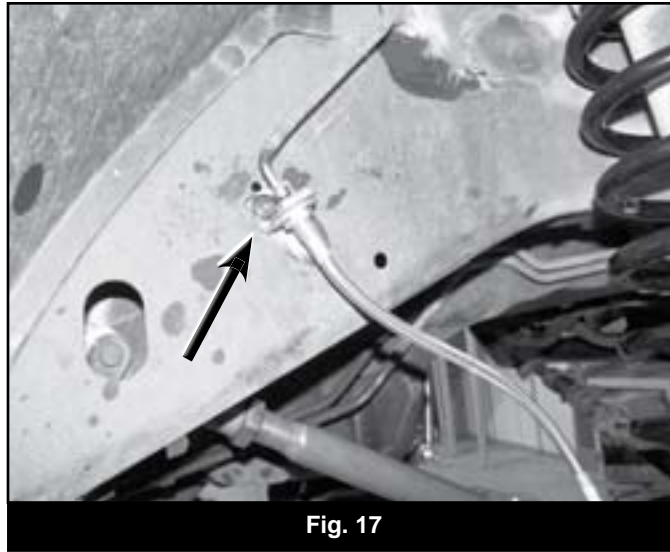

Fig. 17
46. Install BDS front brake line (22510) by attaching upper portion first. Tighten securely (Fig 17).